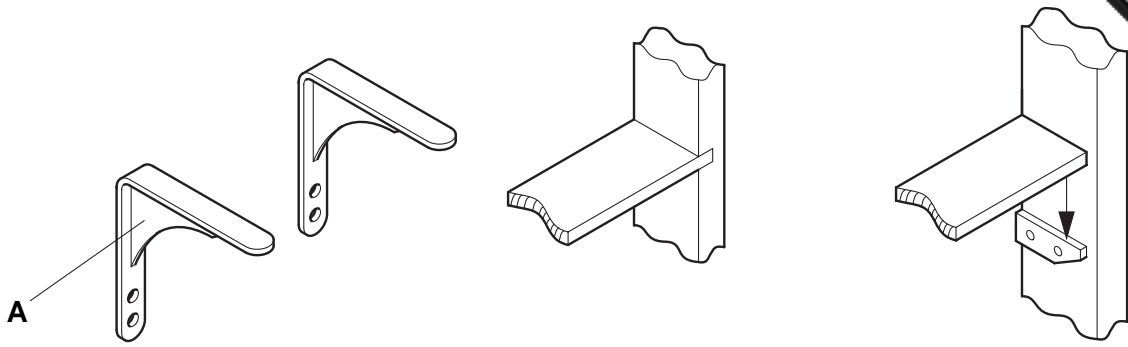

Fig. 6
- 6 Fig. 6 shows a range of methods that can be used to support shelves.